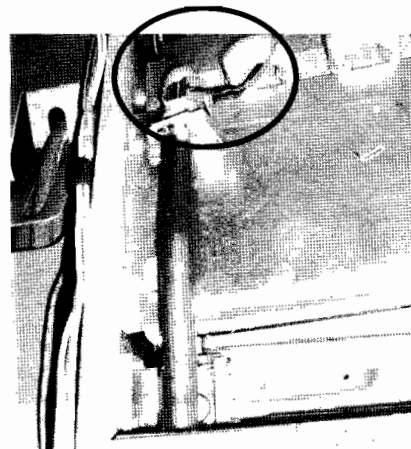

Figure 28
- ☐ Fit the leads and replacement the sensor. (*Figure 28*)